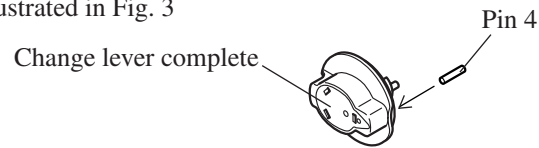

Fig. 3
(1) Assemble pin 4 to change lever complete as illustrated in Fig. 3